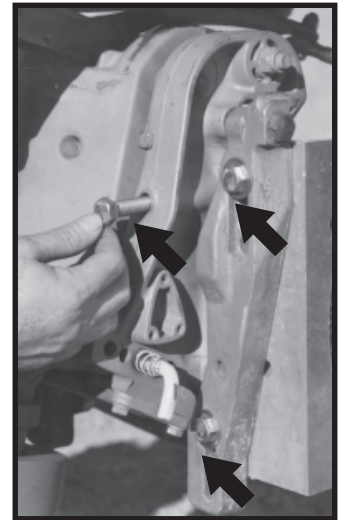

FIG. 8
**WHEN MOUNTING A 2-PIECE TRANSOM MOUNT MOTOR TO THE PT-130, USE FOUR BOLTS (TWO ON EACH SIDE) THROUGH THE 2-PIECE MOUNTING BRACKETS AND TWO ADDITIONAL BOLTS (ONE ON EACH SIDE) THROUGH THE MAIN STRUCTURE OF THE MOTOR. (FIG. 8)**
If mounting the motor as shown in FIG. 8 with the bolts coming from the outside of the PT-130 structure in (head of the bolts on the outside) causes internal clearance problems, reverse the bolts so they come from the inside of the PT-130 structure out (head of the bolt inside of the PT-130 structure.)